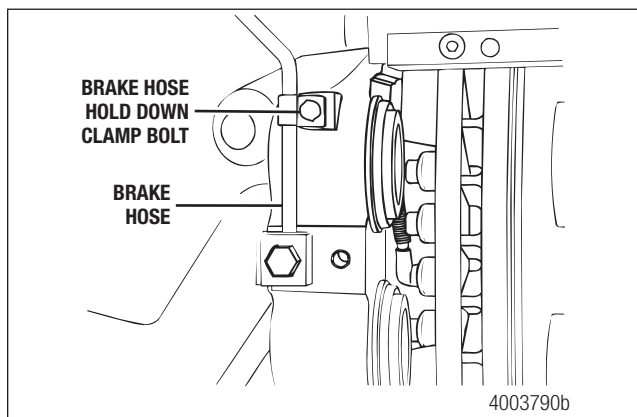

Figure 4.6
3. Remove the brake hose hold down clamp bolt, if equipped. Figure 4.6.
4. Remove the brake hose from the caliper. Figure 4.6.